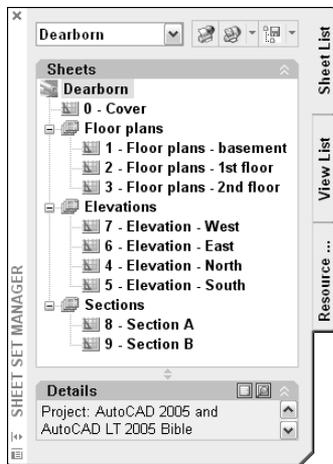

Figure 26-21: The Sheet Set Manager is home base for your sheet sets.
You manage sheet sets and their individual sheets in the new Sheet Set Manager, shown in Figure 26-21. The Sheet Set Manager is a palette like the Properties palette. For example, you can auto-hide it in the same way. To open the Sheet Set Manager, choose Tools ⇨ Sheet Set Manager, click the Sheet Set Manager button on the Standard toolbar, or press Ctrl+4.
- ♦ **Sheet List** contains the sheets that you create for the sheet set. You use this tab to manage and organize the sheet set. You can set properties for the sheet set, for subsets (categories), and for individual sheets. Use this tab to add and remove sheets; import a layout from another drawing as a sheet; plot, publish, eTransmit, or archive an entire sheet set or a selection of sheets, rename and renumber sheets, and close the sheet set. You can also open any sheet, which is the same as opening the drawing. Figure 26-21 shows the Sheet List tab.
Most AutoCAD users who work with multiple drawings create a folder structure to help organize the drawings. Sheet sets work the same way. You should start by creating a folder for your sheet set. If you want, you can create folders for categories. In the architectural example shown in Figures 26-21 and 26-22, the categories are Floor Plans, Elevations, and Sections. These become *subsets* in your sheet set. Finally, you should create a subfolder for your resource drawings, the drawings that you'll use to create the sheet set.
Click Import Options to open the Import Options dialog box. Here you can decide if you want the sheet name to include the drawing name before the layout name. You can also choose to use your folder structure to create subsets. For example, if you have folders named Floor Plans, Elevations, and Sections, you could automatically create the subsets that you see in Figure 26-21. Click OK to close the Import Options dialog box and return to the wizard.